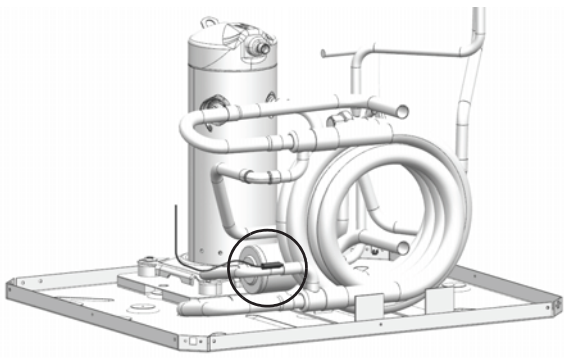

Fig. 21 — Water-Side Freeze Protection Sensor
- Evaporator freeze protection sensor, mounted between the thermal expansion device and the evaporator, monitors refrigerant temperature between the evaporator coil and thermal expansion valve. If temperature drops below or remains at freeze limit trip for 30 seconds, the controller will shut down the compressor and enter into a soft lockout condition. The default freeze limit trip is -3.3°C . (See Fig. 21 and 22.)